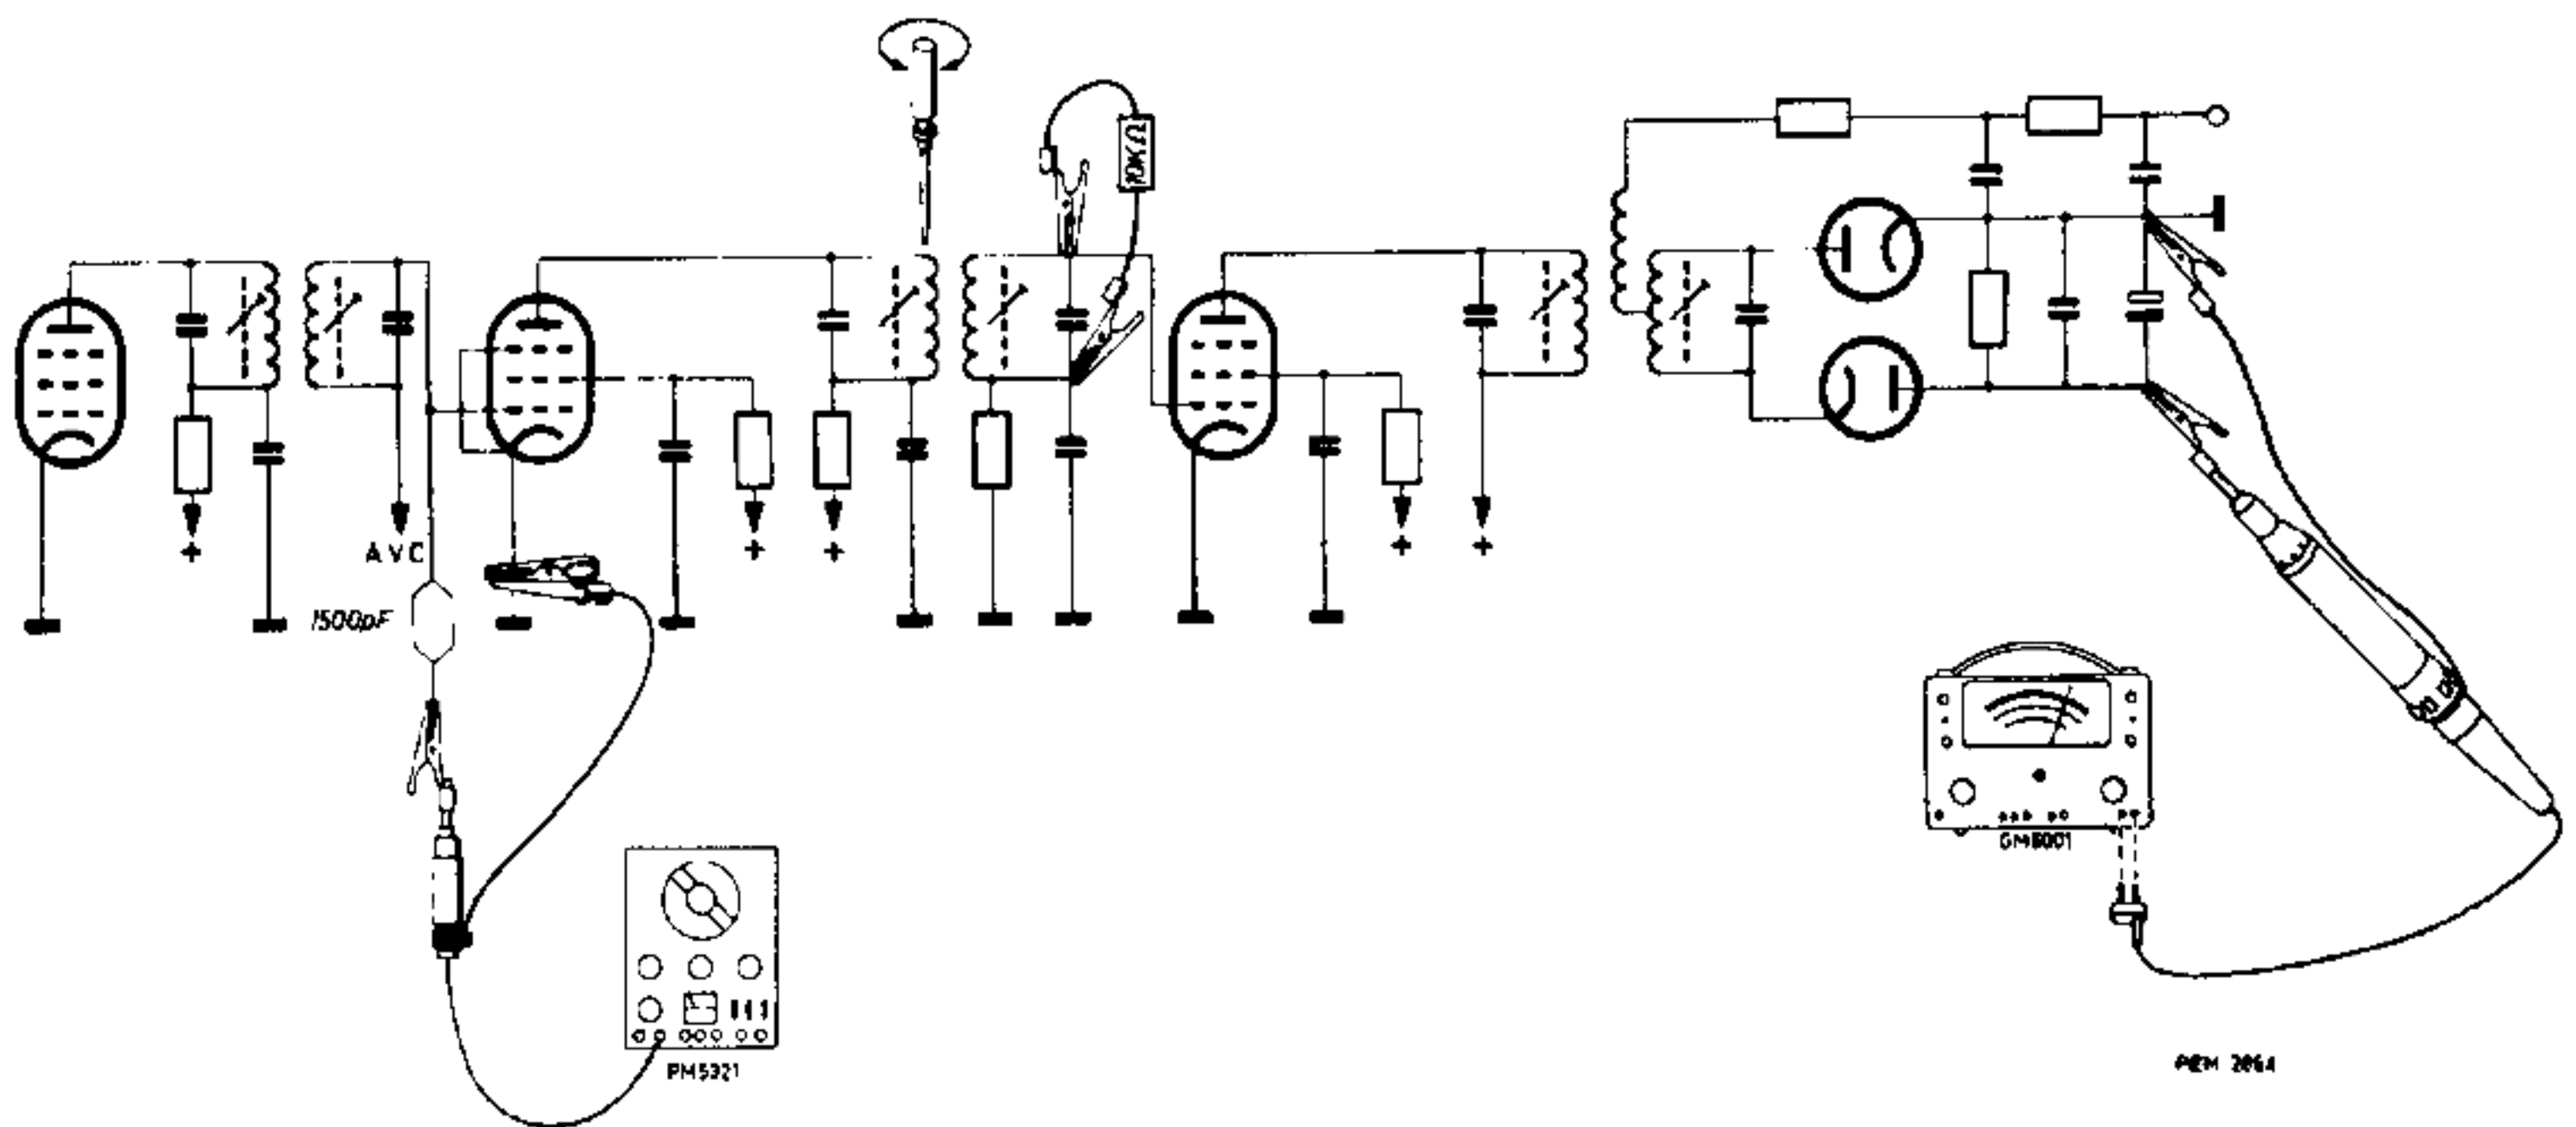

Fig. 18. Alternately damping and adjusting the primary and secondary circuits
8. Adjust the cores of the other I.F. band-pass filters in the sequence indicated in the service data of the receiver. After adjustment of one of the circuits of a band-pass filter this circuit should be terminated with a resistor of approx. $10\text{ k}\Omega$, after which the other circuit of the band-pass filter can be adjusted (Fig. 18).